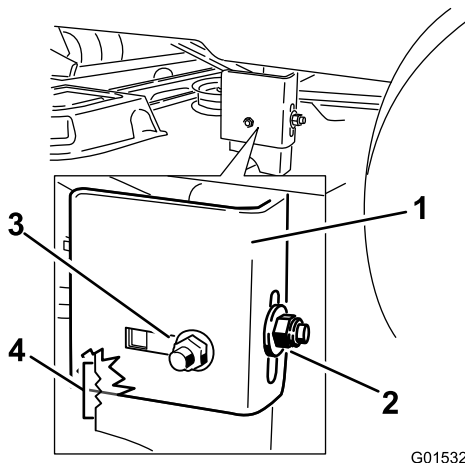

Figure 52
- Stop the deck at the adjusted position and tighten the rear locking nut on the hanger bracket to hold the new position (Figure 52).